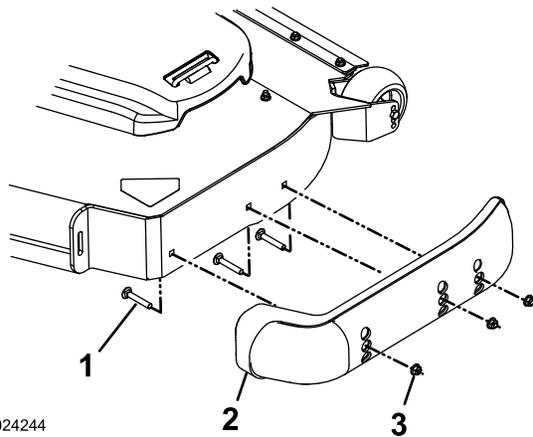

Figure 37
3. Remove the carriage bolts and nuts from each skid (Figure 37).